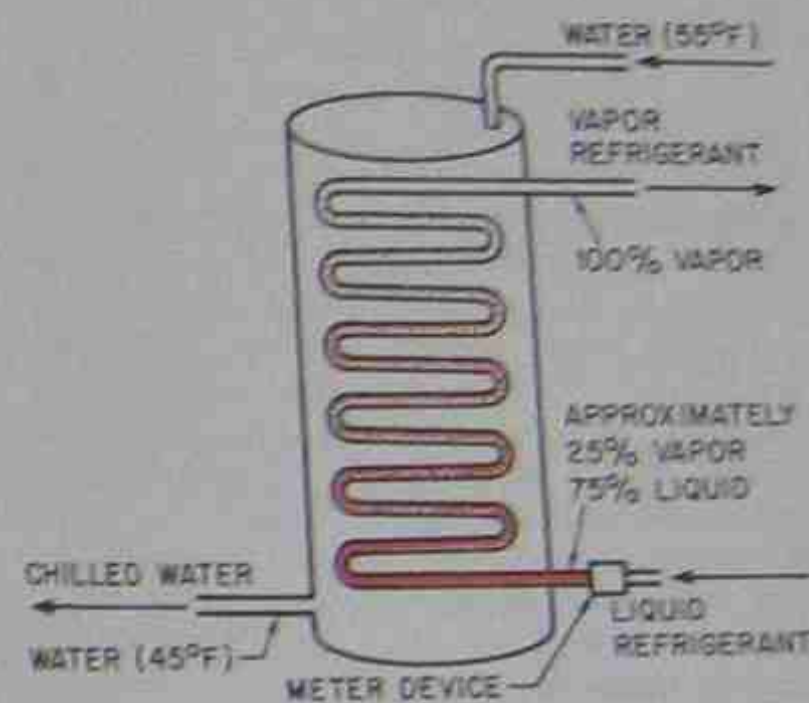

Figure 19-14. Heat exchange between a liquid in a heat exchanger and the refrigerant inside the coil.
2. The *medium* to which the heat is exchanged. Giving heat up from air to refrigerant is an example. The best heat exchange takes place between two liquids, such as water to liquid refrigerant. However, this is not always practical because heat frequently has to be exchanged between air and vapor refrigerant. The vapor to vapor exchange is slower than the liquid to liquid exchange, Figure 19-14.